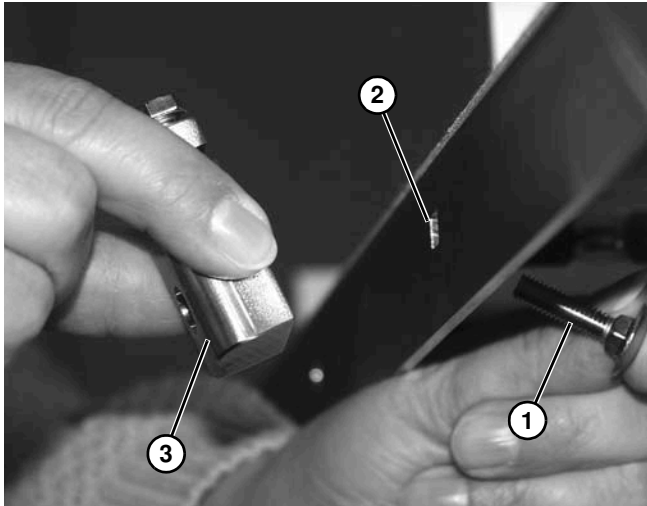

Figure 38
1. Install carriage bolt (Figure 38, item 1) through square hole (Figure 38, item 2) in conveyor frame, and install guide bracket (Figure 38, item 3).